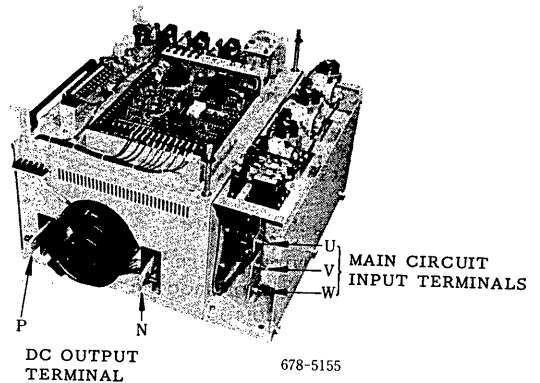

Fig. 7 Main Circuit Input Terminals and DC Output Terminals Shortcircuited
- Short circuit all the main circuit terminals on the thyristor module with clips. Now, no voltage difference can be measured across the main AC input terminals (U, V, W) and the DC output terminals (P, N). See Fig. 7.